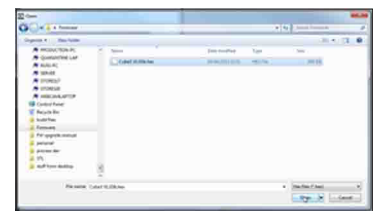

Fig. 119
12. The CubeX software will then open windows explorer. Navigate to the firmware you wish to install and open it. (Fig. 119)